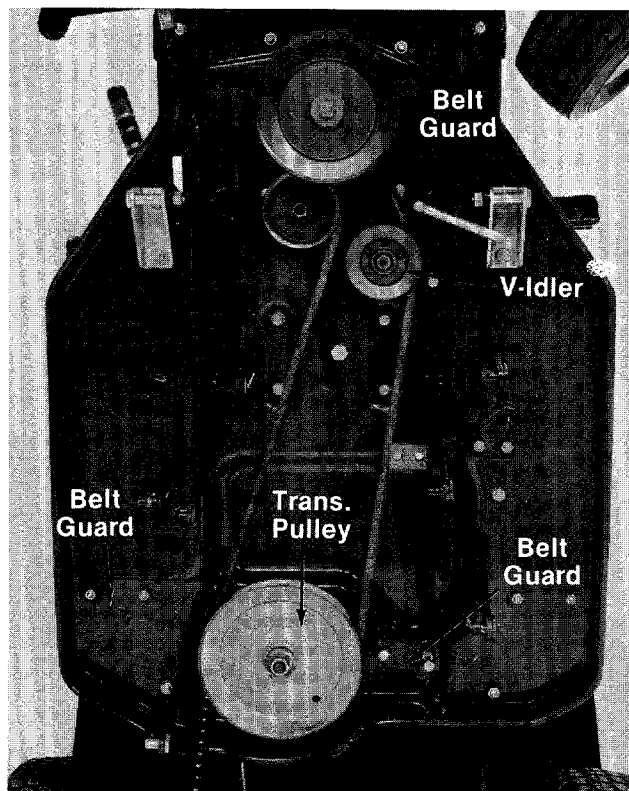

FIGURE 22.
8. Remove the six pins holding the deck to the frame. See figure 22.
### Transmission Belt (See figure 22)